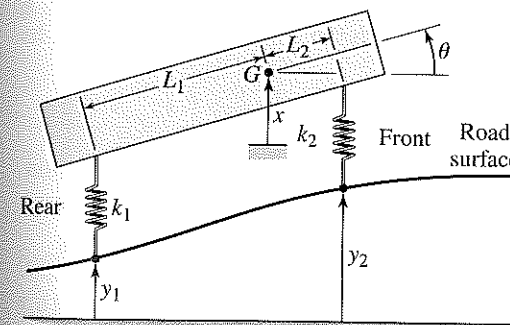

Figure P5.29
- 5.29 A representation of a car's suspension suitable for modeling the bounce and pitch motions is shown in Figure P5.29, which is a side view of the vehicle's body showing the front and rear suspensions. Assume that the car's motion is constrained to a vertical translation x of the mass center and rotation θ about a single axis which is perpendicular to the page. The body's mass is m and its moment of inertia about the mass center is I_G . As usual, x and θ are the displacements from the equilibrium position corresponding to $y_1 = y_2 = 0$. The displacements $y_1(t)$ and $y_2(t)$ can be found knowing the vehicle's speed and the road surface profile.